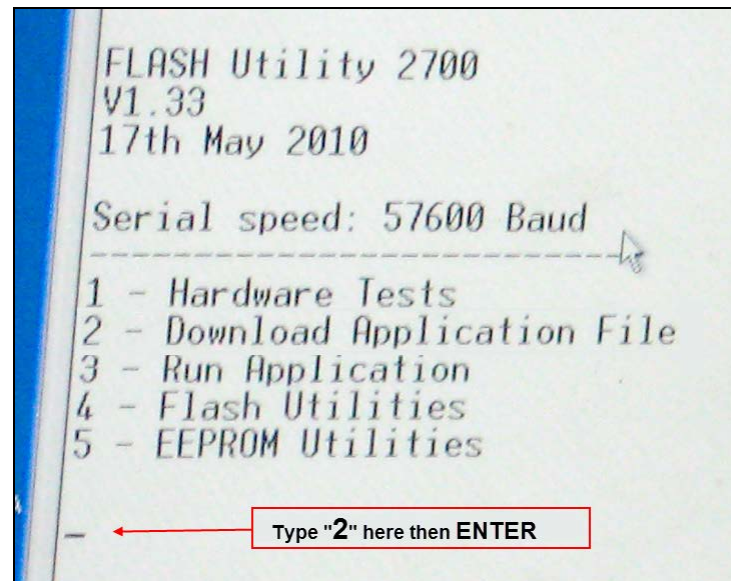

Fig.20
5. On the HyperTerminal, enter "2" (Download Application File) and press ENTER, This will erase V1.05 from the CANtrak flash memory (Fig.20).